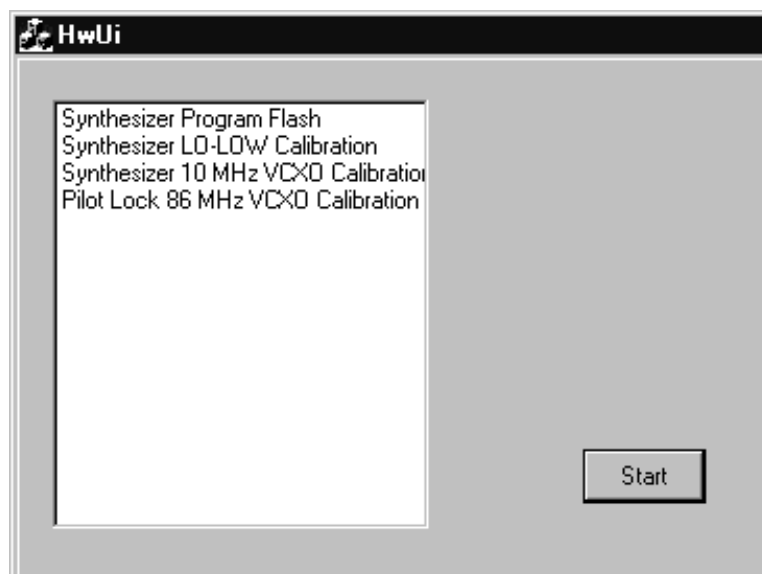

Figure 5–4: Partial Hwui screen with MFG selected
1. In the Hwui window, select MFG (see Figure 5–4).